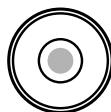

Fig.4.5
- 8) Adjust the leveling foot screws ⑤ until the bubble is exactly centered in the center circle. (Fig.4.5)